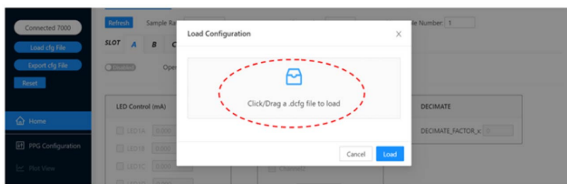

Figure 26. Choose Configuration File
2. Click **Click/Drag a .dcfg file to load** to open the .dcfg file in the **Load Configuration** window (see Figure 26). According to the application or measurement conditions, the user can choose the following initial configuration from the **C:\Analog Devices\VSM Client\VSM_Client\Cfg\ADPD7000** location: